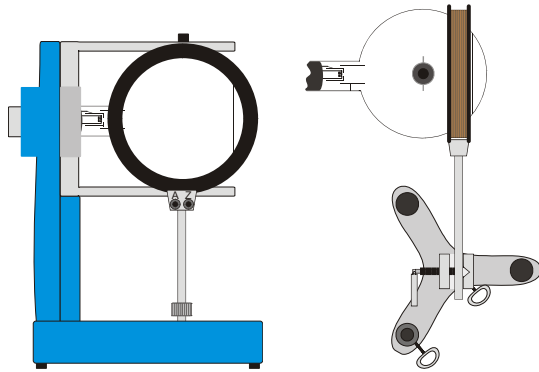

Fig. 2 Setting up the coil (left: in the tube holder, right: on stand equipment)
- Insert the coil in the slot of the tube holder so that the fluorescent screen is enclosed by a single Helmholtz coil. Alternatively it can be mounted on stand equipment (refer to Fig. 2).